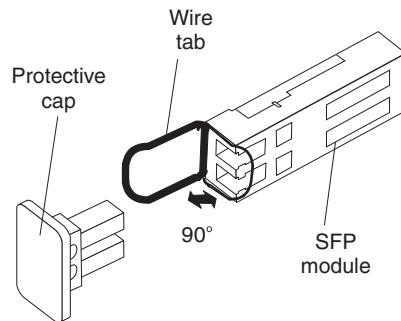

Figure 18. Unlocking the SFP module latch - wire variety
- For SFP modules that contain wire tabs, unlock the SFP module latch by pulling the wire latch outward 90°, as shown in Figure 18.